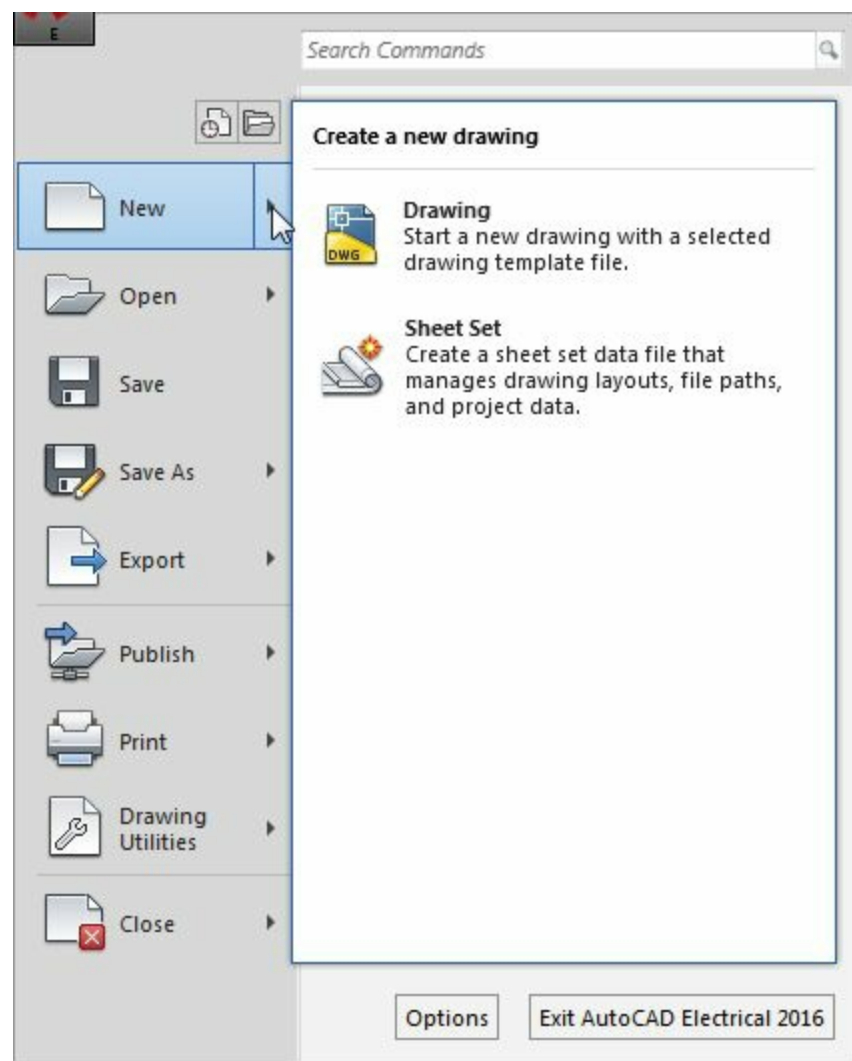

Figure-16. Options for new documents
- Click on the **Application** button and hover the cursor over **New** option in the menu. The options for new documents will be displayed; refer to Figure-16.